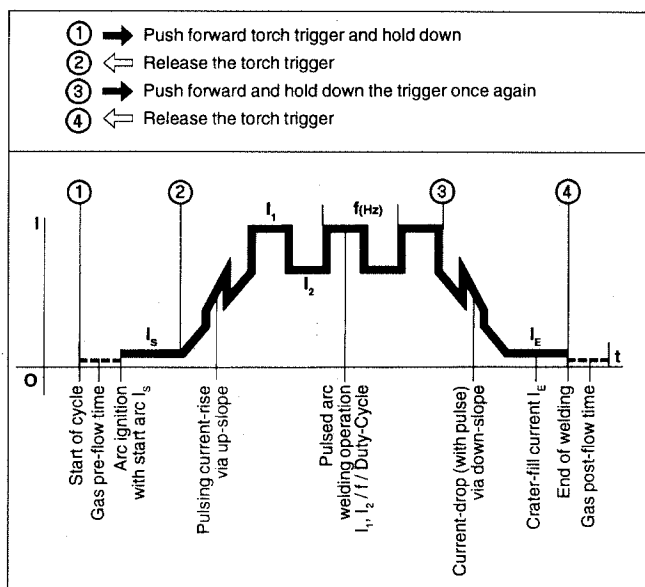

Fig. 15: Functional sequence in pulsed-arc welding operation using RCT P (4-step)
- LED indicator ⑬ blinks up on the power source.
- Set desired operating mode with function selector switch ④.
- The appropriate LED-indicator ⑤, ⑥, ⑦ or ⑧ lights up.
- The down slope parameter is set directly on the power source. In the 4-step operating mode, the pulse phase begins as soon as the operator releases the torch trigger in the up slope. As can be seen in Fig. 15, pulsing also takes place in the down slope.